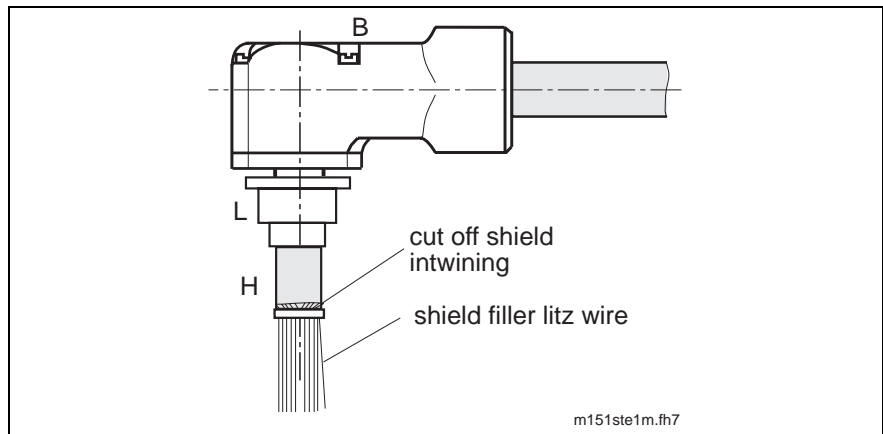

Fig. 4-28: Assembling the end piece of the shield
5. Guide litz wires and strand bundle through shield end F and push under the shield intertwining (see Fig. 4-28).